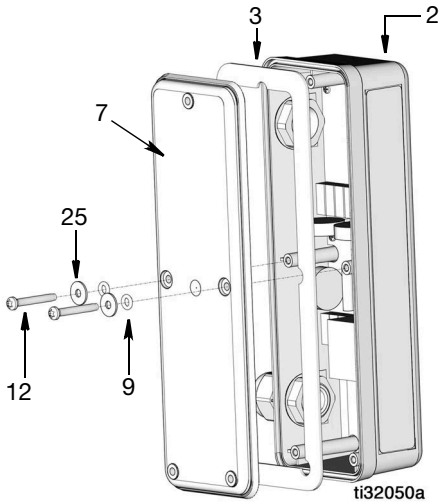

**FIG. 10**
14. Reconnect the DIN connector (13b) to solenoid connector (14a) (FIG. 10).
15. Tighten screw (13a) on back of mini DIN solenoid connector (13b) (FIG. 10).